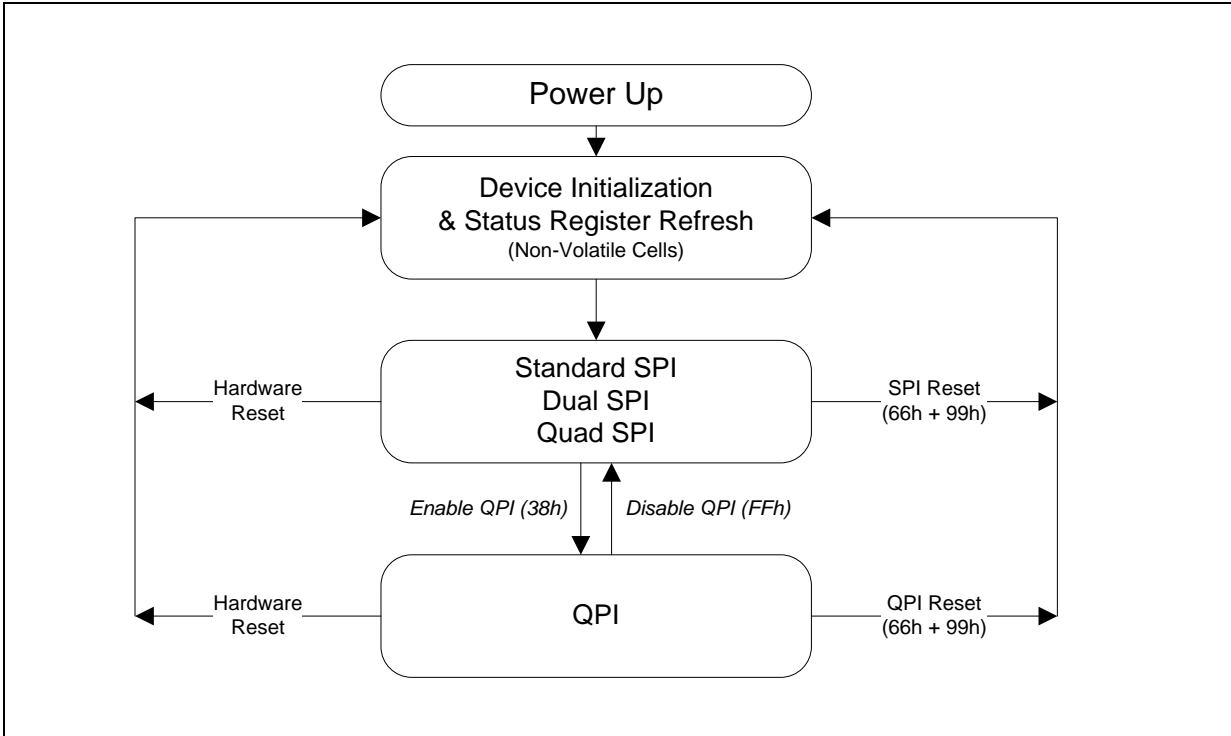

Figure 3. W25Q40RV Serial Flash Memory Operation Diagram
The W25Q40RV supports Quad Peripheral Interface (QPI) operations only when the device is switched from Standard/Dual/Quad SPI mode to QPI mode using the “Enter QPI (38h)” instruction. The typical SPI protocol requires that the byte-long instruction code being shifted into the device only via DI pin in eight serial clocks. The QPI mode utilizes all four IO pins to input the instruction code, thus only two serial clocks are required. This can significantly reduce the SPI instruction overhead and improve system performance in an XIP environment. Standard/Dual/Quad SPI mode and QPI mode are exclusive. Only one mode can be active at any given time. “Enter QPI (38h)” and “Exit QPI (FFh)” instructions are used to switch between these two modes. Upon power-up or after a software reset using “Reset (99h)” instruction, the default state of the device is Standard/Dual/Quad SPI mode. To enable QPI mode, the non-volatile Quad Enable bit (QE) in Status Register-2 is required to be set. When using QPI instructions, the DI and DO pins become bidirectional IO0 and IO1, and the /WP and /HOLD pins become IO2 and IO3 respectively. See Figure 3 for the device operation modes.